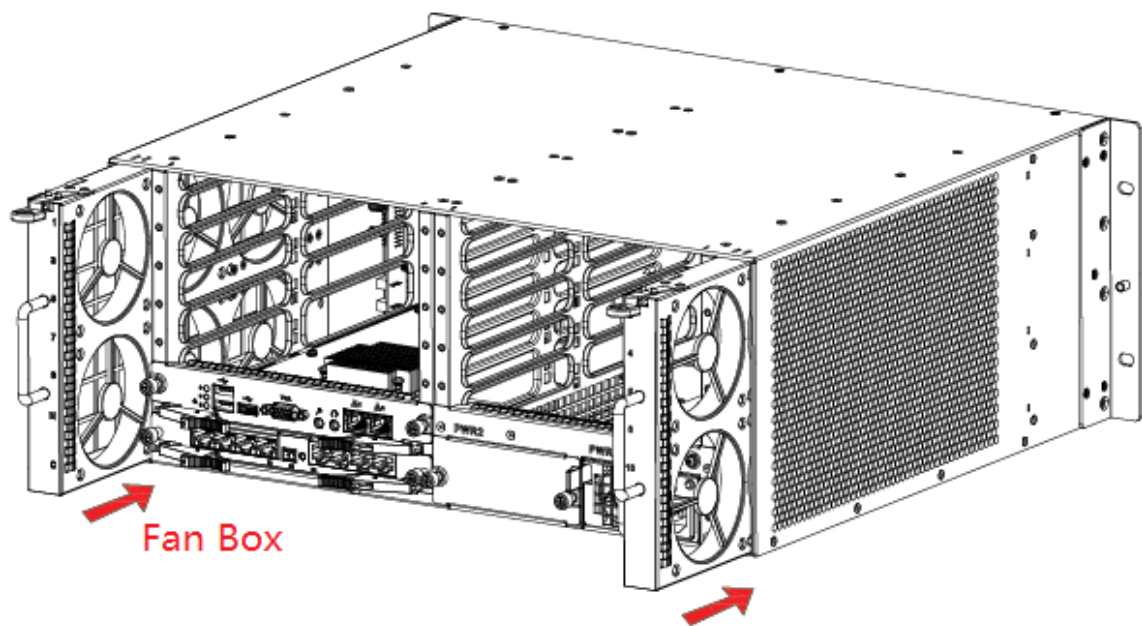

Figure 1-7
Step 4 Insert left and right fan boxes into corresponding positions, until the top snap joint is fixed, as shown in Figure 1-7.